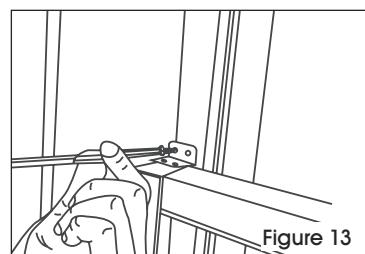

Figure 13
7. To secure lower sash in place, attach sash lock with 1/2" screw. (See Figure 13)